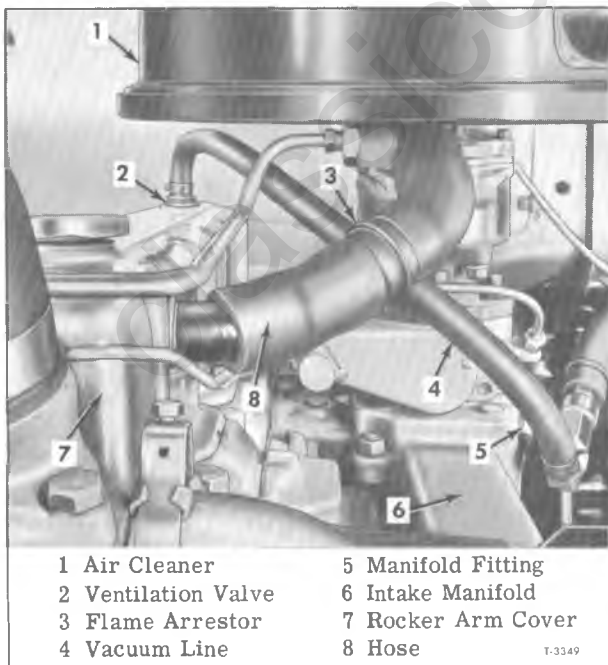

Figure 9—Closed Positive Type Crankcase Ventilation System on In-Line Engine
Figure 9 shows typical closed type crankcase ventilation on In-line engine. The ventilation valve (2) is inserted in hole in rocker arm cover and flame arrester (3) is used in air hose (8) connecting air cleaner to rocker arm cover.
Key number in text refer to figure 9.